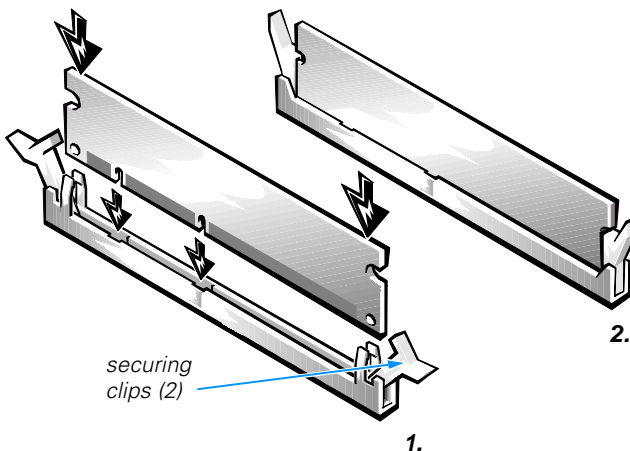

Figure 2-10. Installing a DIMM
2. Press outward on the plastic securing clips at each end of the DIMM socket to release them as shown in step 1 of Figure 2-10.
If you inserted the DIMM correctly, the securing clips snap into the cutouts at each end of the DIMM (see step 2 of Figure 2-10).